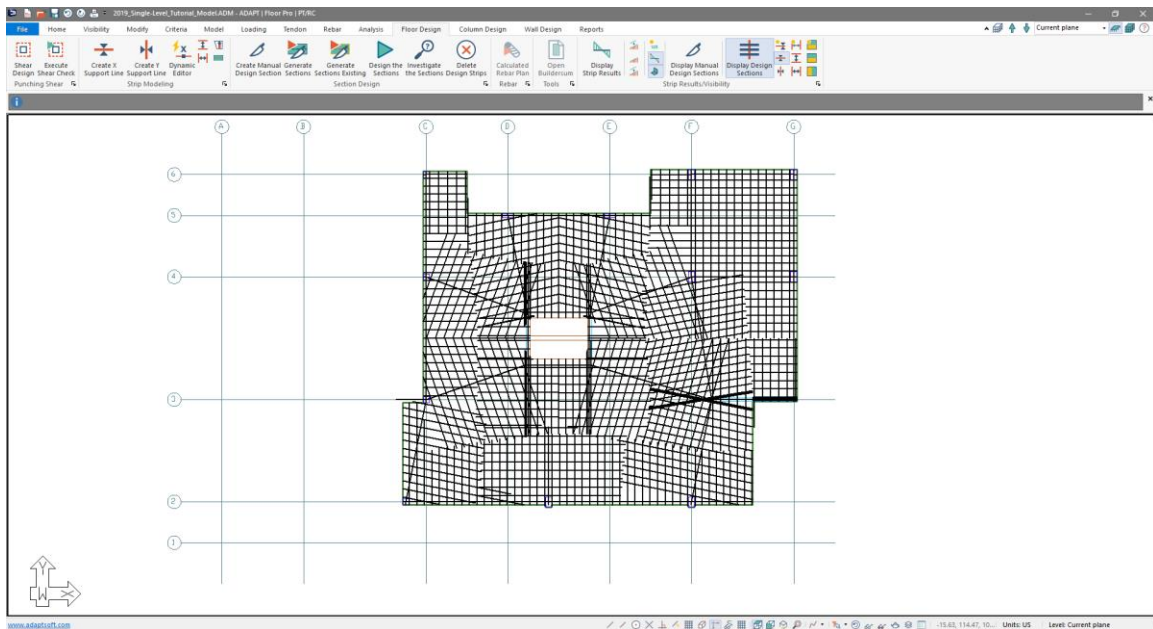

Figure 8-9
- Go to *Floor Design* → *Strip Results/Visibility* and click on the *Display Design Section*  icon. When complete the user's screen should look similar to that shown in **FIGURE 8-9**.